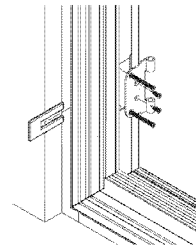

Figure 3
17. Always shim behind each hinge; this is necessary to provide full support of the frame which is required for proper door operation. **See Figure 3**